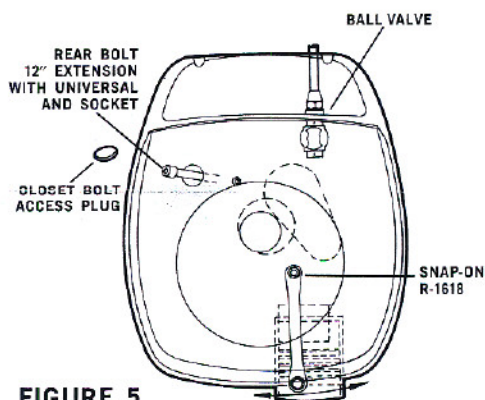

FIGURE 5
**Note:** If the space around the toilet does not permit the above method, access to the rear nut can be gained by removing the access plug (shown in Figure 5). Plug is removed by pressing down on the plug's edge closest to the bowl. You assemble the rear closet bolt flange nut by reaching through the access hole with a socket, a universal and a 12" extension. The flange nut may be held in the socket with a small dab of sealer.